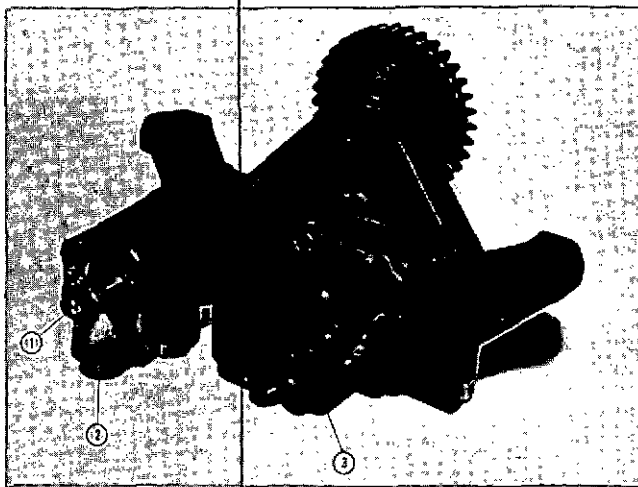

Fig. 7-6-1, V40728. Lubricating oil pump—assembled
The standard lubricating oil pump is shown in Fig. 7-6-1; (1) is pressure oil outlet, (2) regulator by-pass and (3) suction tube connecting point.